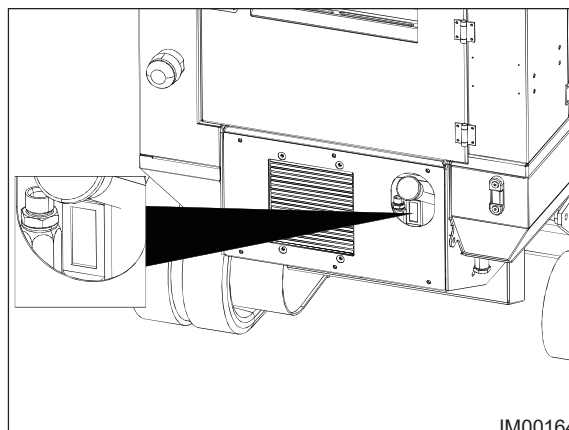

Fig: 11.23 - Sight Glass
3. View the Sight Glass on the side of the fuel tank (Fig: 11.23).